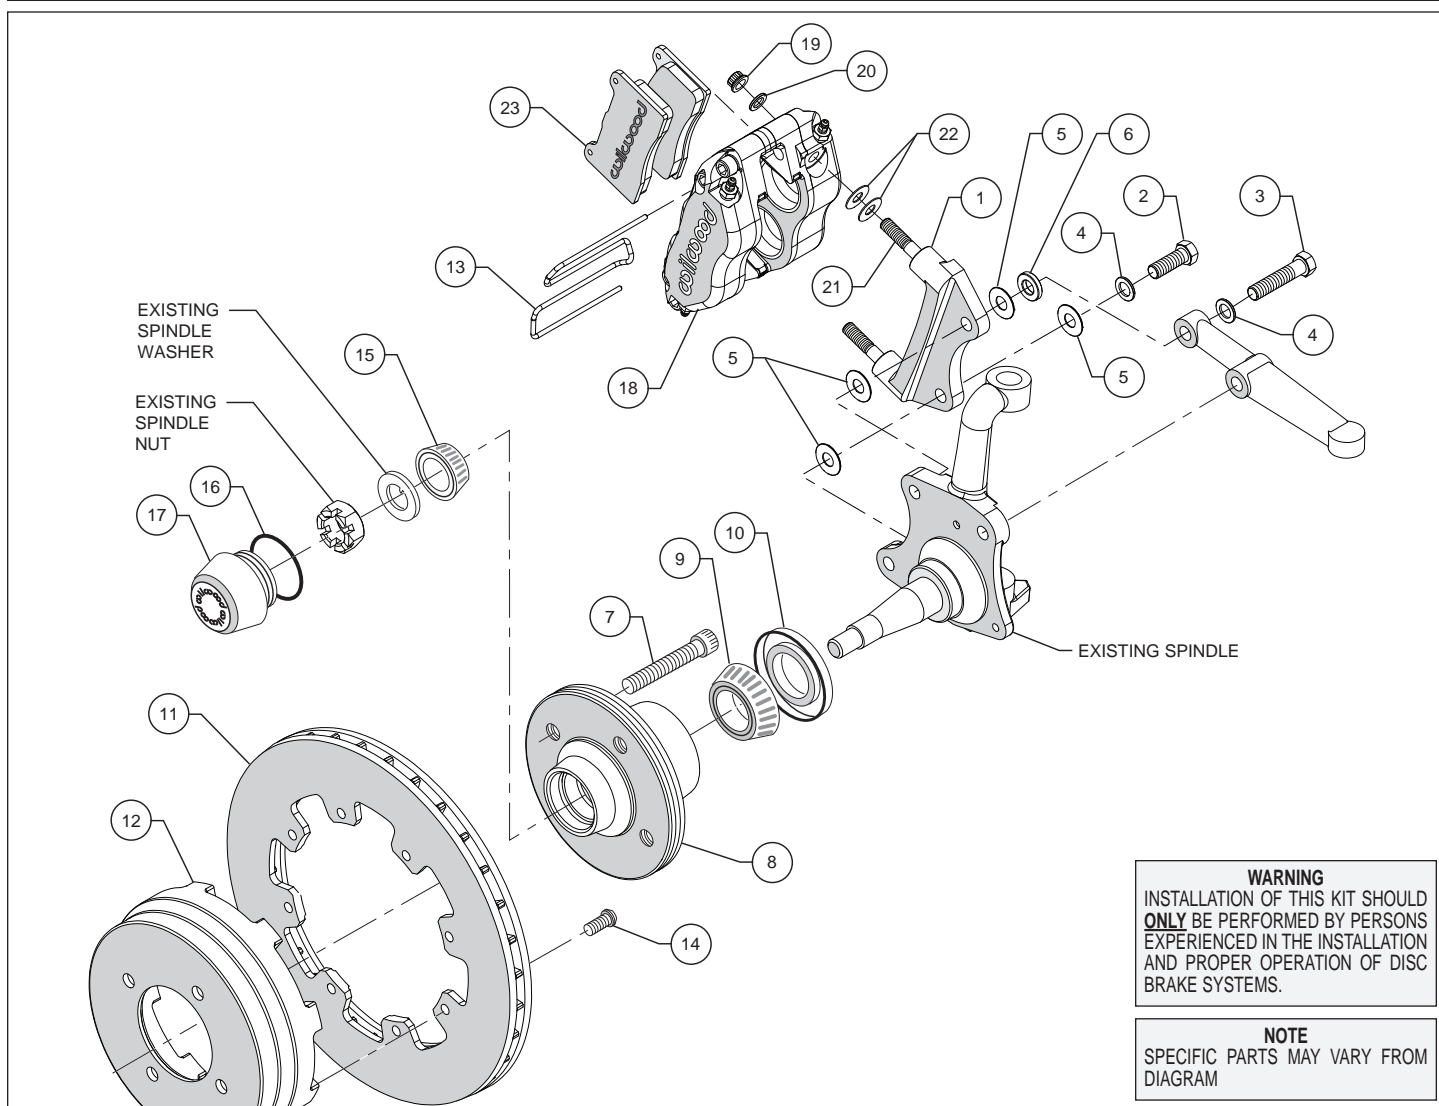

Figure 1. Typical Installation Configuration
Assembly Instructions (numbers in parenthesis refer to the parts list on the preceding page, and Figure 1):
- The caliper mount bracket (1) should initially be installed with clean, dry threads on the mounting bolts. Orient the bracket as shown in Figure 1 and Photo 1, and install between the spindle and steering arm using bolts (2/3), washers (4), shim washers (5), and spacer (6). Initially place one .030" thick shim (5) on each bolt between the bracket and spindle, and one shim on each bolt on the opposite side of the bracket, see Figure 1. Temporarily tighten the mounting bolts. **NOTE:** The bracket must fit squarely against the mount bosses on the upright. Inspect for interference from casting irregularities, machining ridges, burrs, etc. Later, after the caliper alignment has been checked, the mount bolts will be secured using red *Loctite*® 271.
- Orient the rotor (11) and the hat (12) as shown in Figure 1 and Photo 5. Attach rotor to hat using bolts (14). Using an alternating sequence, apply red *Loctite*® 271 to the threads, and torque to 25 ft-lb.
- Screw dust cap (17) into hub (8), Photo 6. Friction created by the o-ring (16) on the dust cap keeps it from unscrewing. **NOTE:** The O.D. of the existing OEM spindle washer may be larger than the I.D. of the dust cap not allowing it to seat against the hub face. Some grinding of the washer O.D. may be necessary to clear the I.D. of the dust cap.
- Lubricate the caliper mounting studs (21) with lightweight oil. Initially place two .035" thick shims (22) on each stud between the caliper and the bracket, as shown in Figure 1 and Photo 7. Mount the caliper (18) onto the bracket (1) using lock nuts (19) and washers (20), Figure 1. Temporarily tighten the lock nuts and view the rotor through the top opening of the caliper. The rotor should be centered in the caliper, Photo 8. If not, adjust by re-allocating shims (5) from one side of the bracket to the other. Always use the same amount of shims on each of the two mounting bolts. Once the caliper alignment is correct, remove the bracket mounting bolts one at a time, apply red *Loctite*® 271 to the threads, and torque to 47 ft-lb.